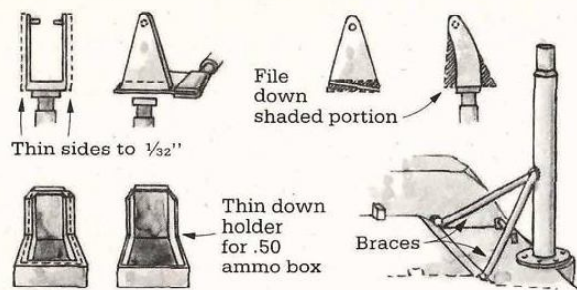

FIG. 12 REWORKING THE TAMIYA GUN STANCHION
**Cross-kitting a machine gun for the "peep."** I mounted the .50 cal. Browning machine gun from the Tamiya kit on the Italeri jeep, building it as a reconnaissance "peep" in France. (Jeeps assigned to armored units were often called "peeps.") The Tamiya stanchion mount for the .50 is simplified, so I reworked it. I have seen photos of a field-manufactured mount just like the one Tamiya provides, but it was used with an air-cooled .30 cal. Browning. The weight of the .50 M2HB machine gun required the standard flexible cradle mount found on .50-armed U. S. vehicles. The easiest way to model it is to find a suitable cradle from another kit, but lacking that, the existing parts can be modified, Fig. 12.